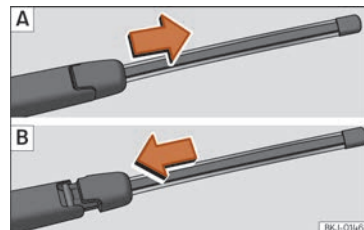

Fig. 44 Removing and fitting the rear window wiper blade.
- Slide the blade adapter in the direction of the arrow and remove the blade »» Fig. 44 A.
- Fit a new blade, **of the same length and type**, as shown in »» Fig. 44 B and slide the adapter until it clicks into place.